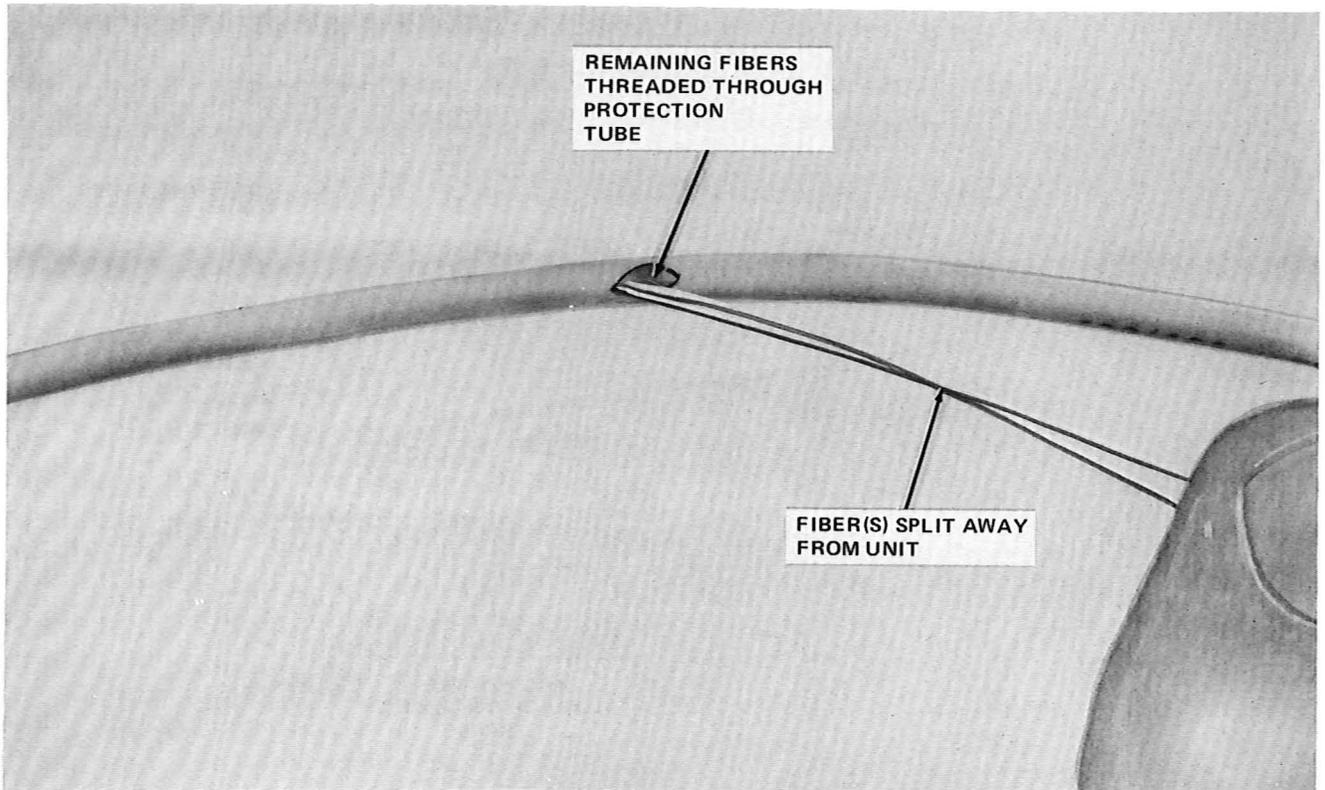

Fig. 62—Splitting Fibers Away From Unit
8.12 At this point, select the fiber(s) to be split away from the unit and pull the fiber(s) through the opening and, at the same time, thread the remaining fibers through the protection tube, as shown in Fig. 62.